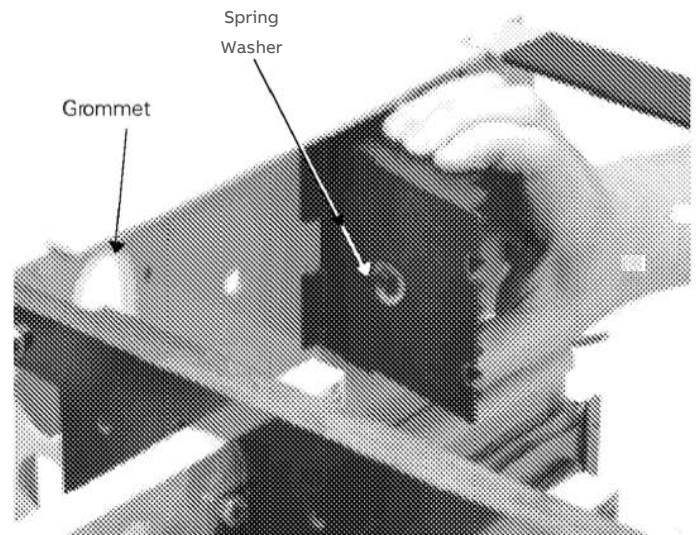

Figure 4. Installing the Secondary Disconnect with spring washer into a Type 1 enclosure.
1. Install the 6.38-inch-long grommet into the oblong wire exit hole as shown in Figure 4.
2. Attach the Secondary Disconnect block to the wall of the draw-out enclosure by hooking the front two mounting feet of the Disconnect through the rectangular holes in the enclosure, while keeping the spring washer balanced on the post, as illustrated in Figure 4.